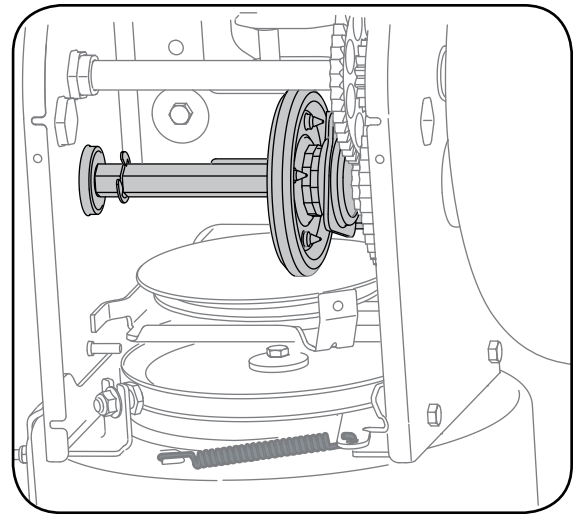

Figure 6-1
2. Apply a light coating of an all-weather multi-purpose grease to the hex shaft, Figure 6-1.